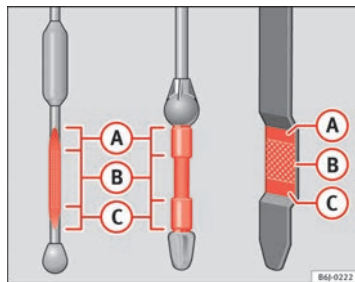

Fig. 108 Engine oil dipstick
- Then pull it out once more and check the oil level ⇒ Fig. 108. Top up with engine oil if necessary.